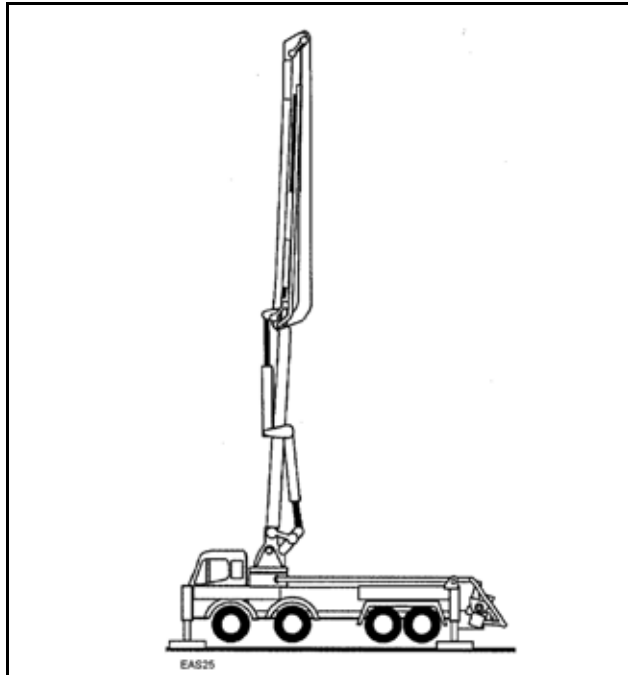

Fig. 458 Sections in vertical position
- ▶ Position both arms vertically (**Fig. 458**).